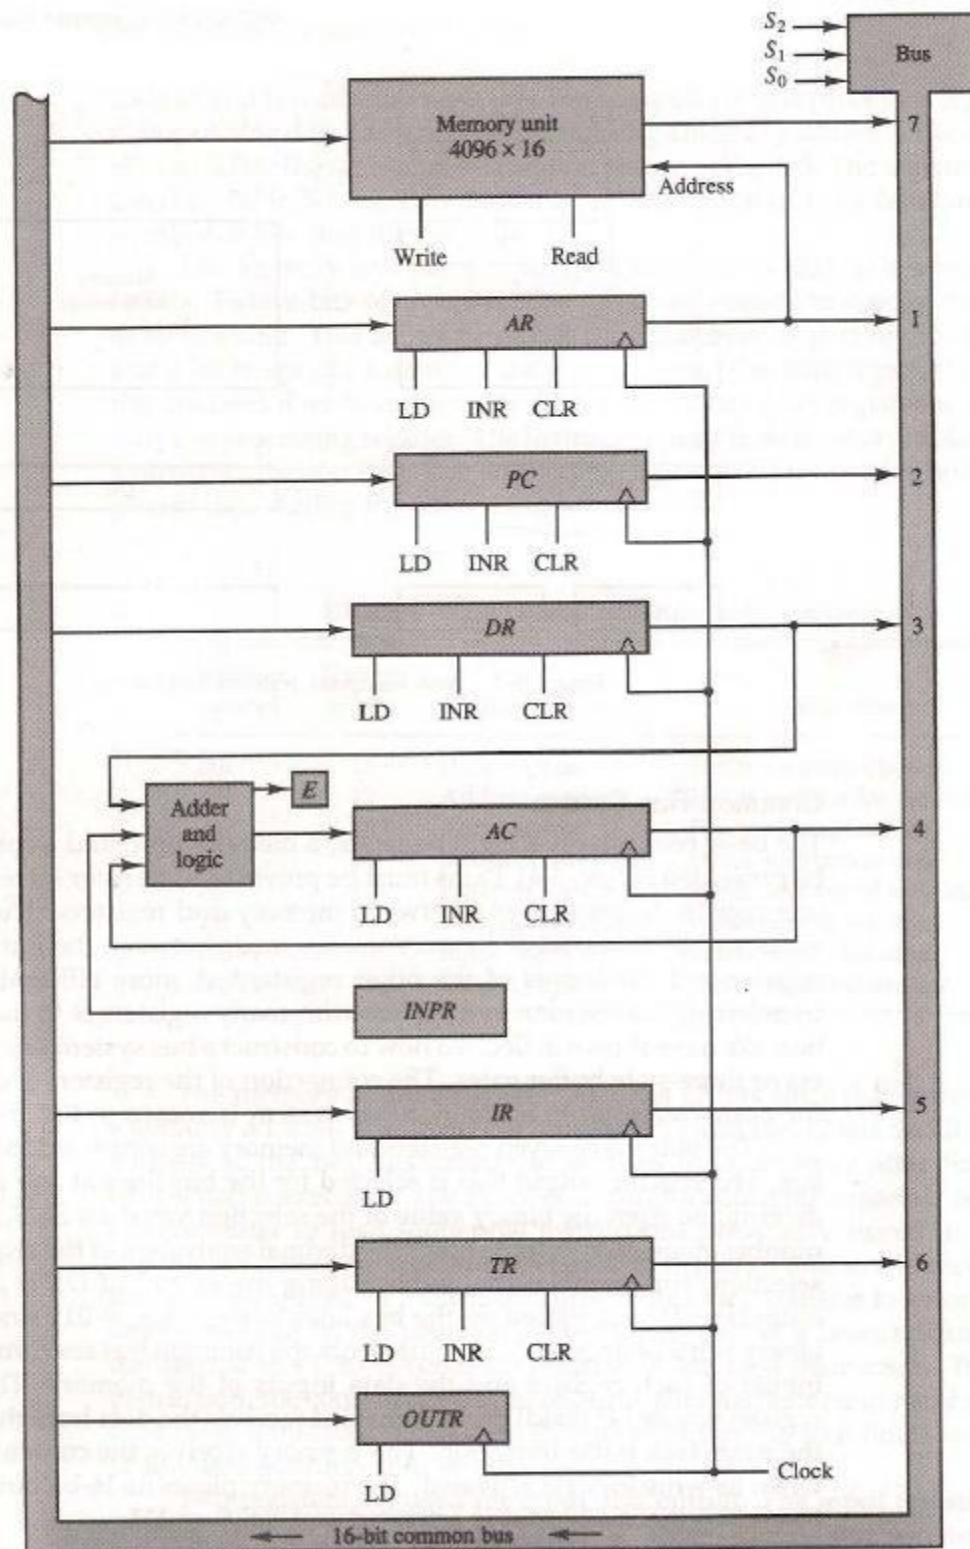

Figure 5-4 Basic computer registers connected to a common bus.
- The connection of the registers and memory of the basic computer to a common bus system is shown in Fig. 5-4.